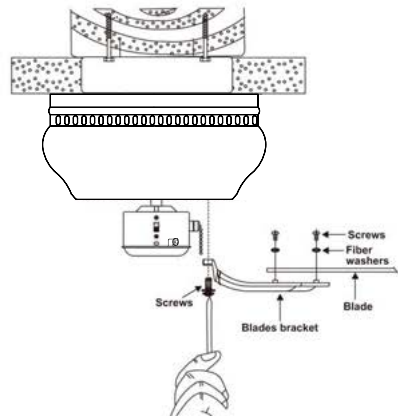

Figure 11
Step 1 Attach the blade to the blade bracket using the screws and fiber washers as shown in Figure 11. Start screw into bracket. Repeat for the two remaining screws.
Step 3 Fasten blade assembly to motor using the screws supplied. (Fig. 11)